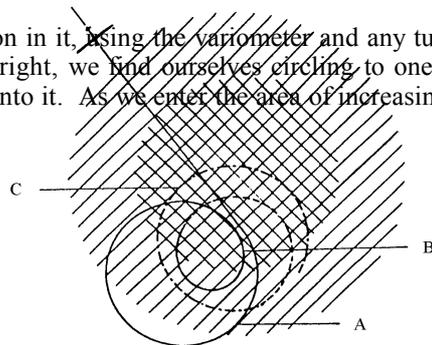

FIG 2
6. Aim to build up a picture in your mind of the thermal and your position in it, using the variometer and any turbulence or airspeed fluctuations. In Fig 2 we have entered the thermal and turned right, we find ourselves circling to one side of the strongest lift. As we turn, we will fly out of the strong lift and then back into it. As we enter the area of increasing lift the G will increase and we will feel a surge.